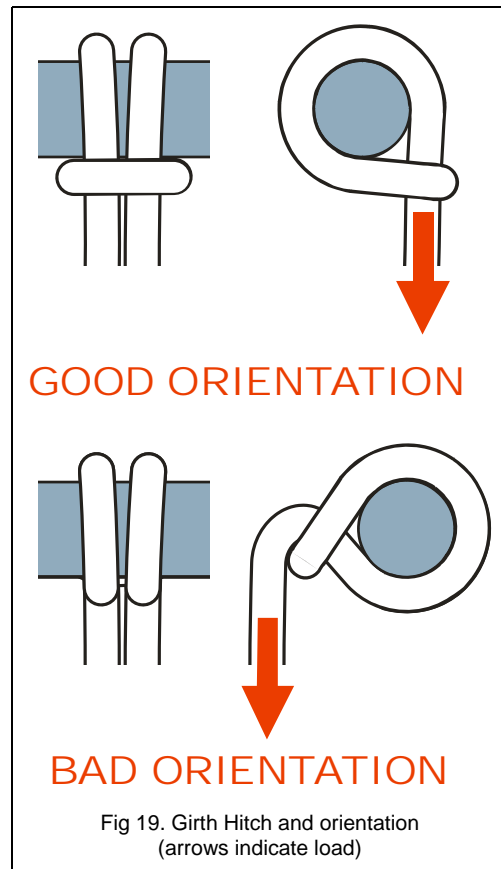

Fig 19. Girth Hitch and orientation
Figure 19 shows two orientation examples.
4. Adjust the orientation as shown *in figure 19* to maximize the strength of the hitch.